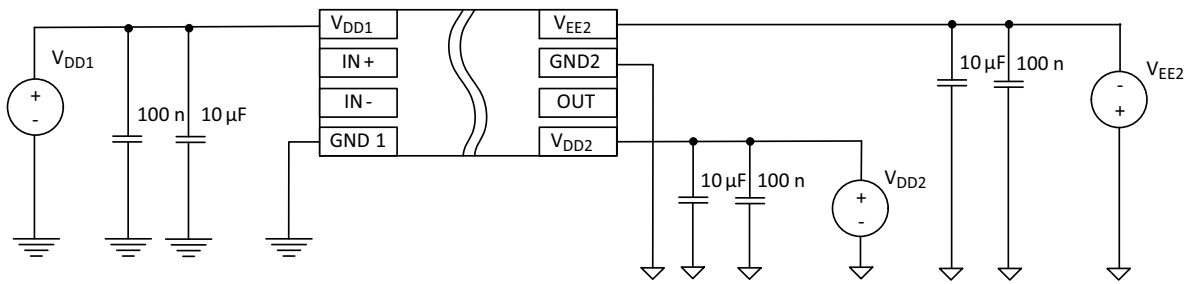

Figure 27. Bipolar Power Supply NCV57080B
- In bipolar power supply the driver is typically supplied with a positive voltage of 15 V at V_{DD2} and negative voltage -5 V at V_{EE2} (Figure 27). Negative power supply prevents a dynamic turn on through the internal IGBT input capacitance